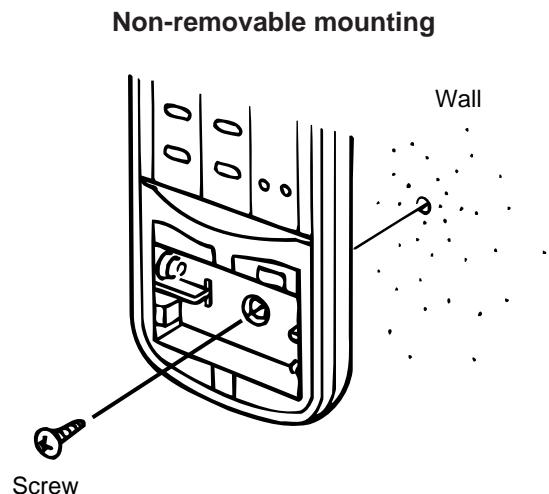

Fig.7b
- 6) Use a screwdriver to screw the remote control unit securing screw into the wall through the hole in the battery compartment. (Fig.7b)